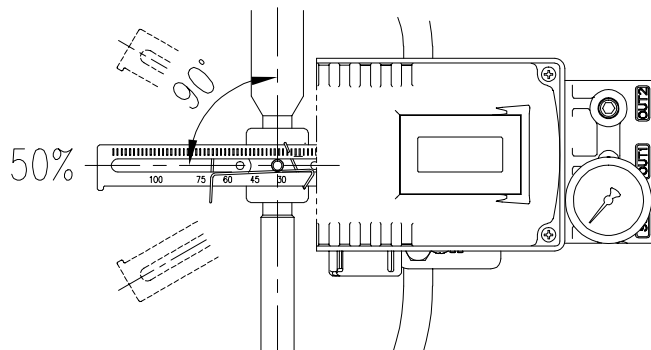

Fig. 3-11: YT-3300L / 3350L Feedback lever and valve stem
- 7) Check if feedback lever is vertical to the valve stem at 50% of the valve stroke. If it is not vertical, adjust the adapter holder on the actuator’s stem to make vertical – **DO NOT TIGHTEN THE ADAPTER HOLDER COMPLETELY.** Improper installation may cause poor linearity. Refer to Fig 3-11.